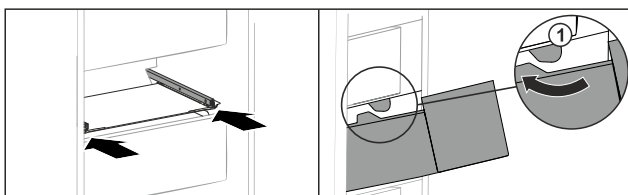

Fig. 141
- ▶ Guide drawer around the stoppers Fig. 141 (1).